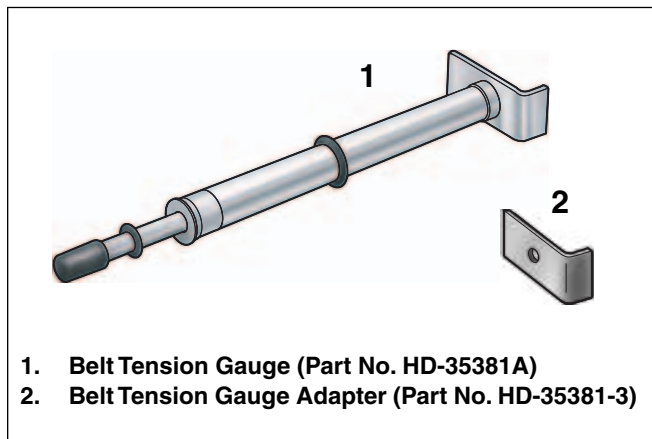

Figure 2-104. Obtain Belt Tension Gauge
16. Obtain the BELT TENSION GAUGE (HD-35381A), or install adapter (HD-35381-3) on old style gauge. See Figure 2-104.